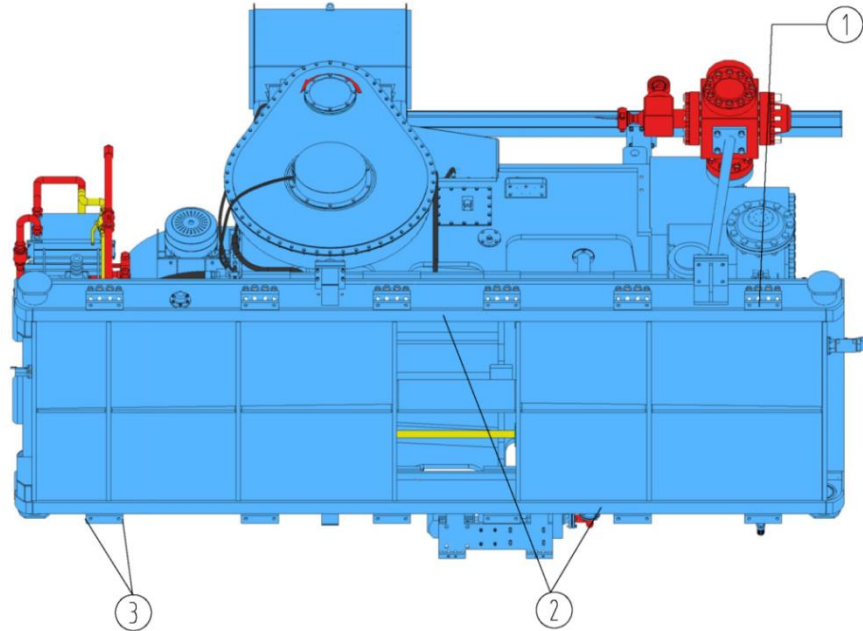

Figure 5: Mud Pump Installation (Trailer Foundation)
1. Adjust the 12 tie down plates (1) of height adjustment devices higher than the below surface of pump skid main beams (RH&LH) (2) before installing the mud pump. Be sure that the tie down plates (1) will not ahead of contact the trailer main beam surface.
2. Be sure that the below surface of pump skid main beams(RH&LH) (2) contact the trailer main beam support surface. Follow the mounting locations shown on the project-specific assembly drawing. Maybe the below surface of pump skid main beams (2) can't fully contact the trailer main beam support surface. Secure the 12 tie down plates (1) fully contact the trailer main beam through adjust the bolts, the lock the plates with locking bolts.
- 3. Welding the 12 tie down plates (1) to the trailer main beam surface, welding position is shown in (3), fillet weld height is 10mm, weld length of two sides is 62mm. As shown in Figure 5.